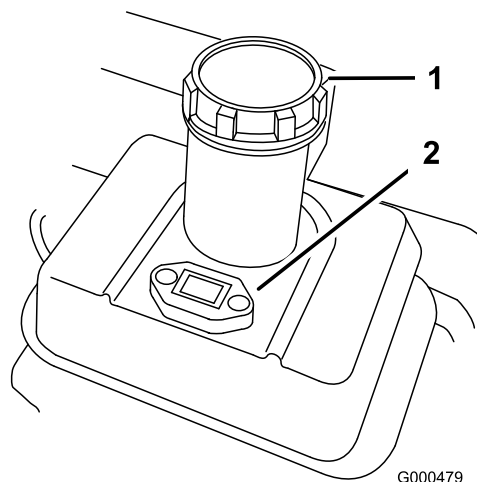

Figure 17
1. Clean around fuel tank cap and remove cap from tank (Figure 17). Using unleaded gasoline, fill fuel tank no higher than to bottom of filter screen. Do not overfill.